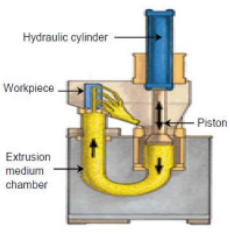

Fig.1. Unidirectional AFM process
- One way AFM process apparatus is provided with a hydraulically actuated reciprocating piston and an extrusion medium chamber adapted to receive and extrude medium unidirectionally across the internal surfaces of a workpiece having internal passages formed therein, as shown in Fig.1.